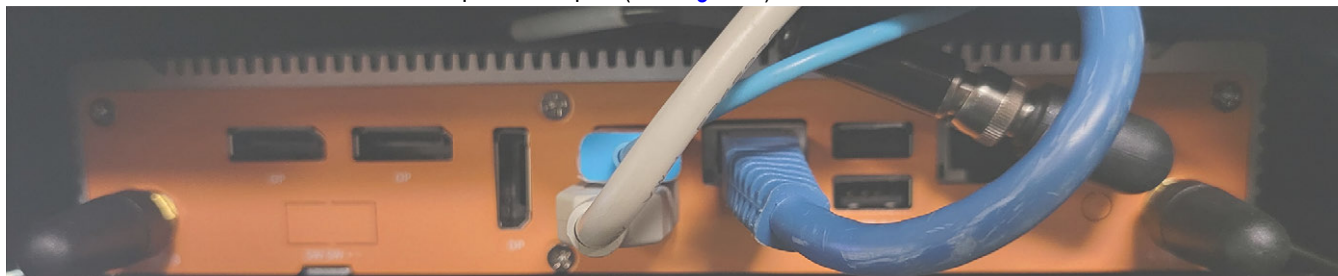

Figure 9. Connected Cables and Power Adapter
7. Attach the cable connections and power adapter (see Figure 9).